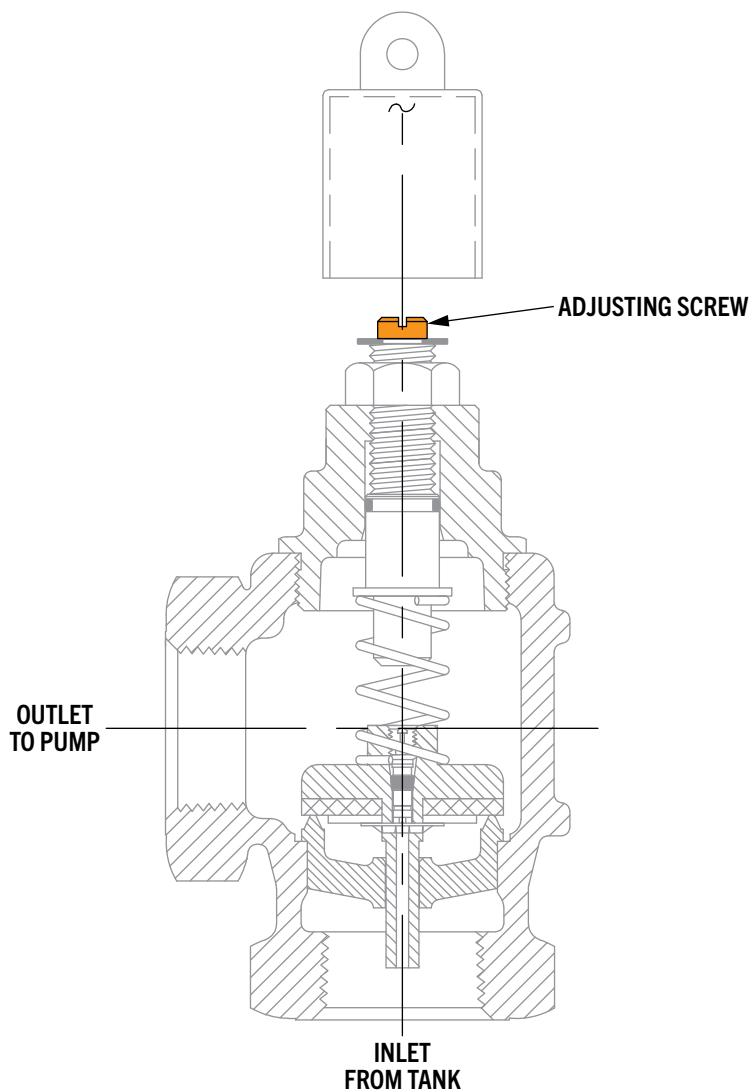

Figure 3.2
5. Valves as supplied are set to the maximum head. If necessary, adjust the valve to the desired head (see Figure 3.2). Refer to the Table 3.1 for setting dimensions.
NOTE: Apply a non-hardening, gasoline resistant thread sealant to the inlet and outlet threads to get a proper seal (see Figure 3.2).